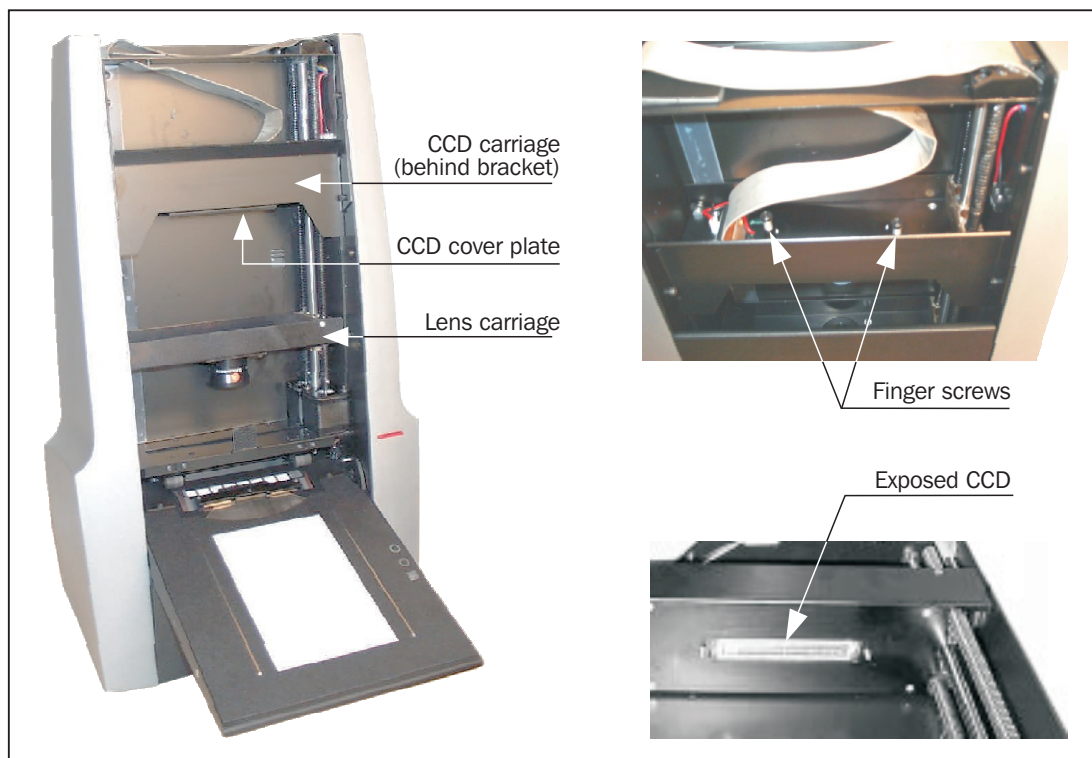

Figure 5.2: The CCD and Lens carriages
2. Make a preview with the software set to scan a 60x60 frame (you do not need to mount an original or original holder). This will put the CCD and lens carriages in the positions shown in Figure 5.2, which makes the CCD and lens easily accessible.